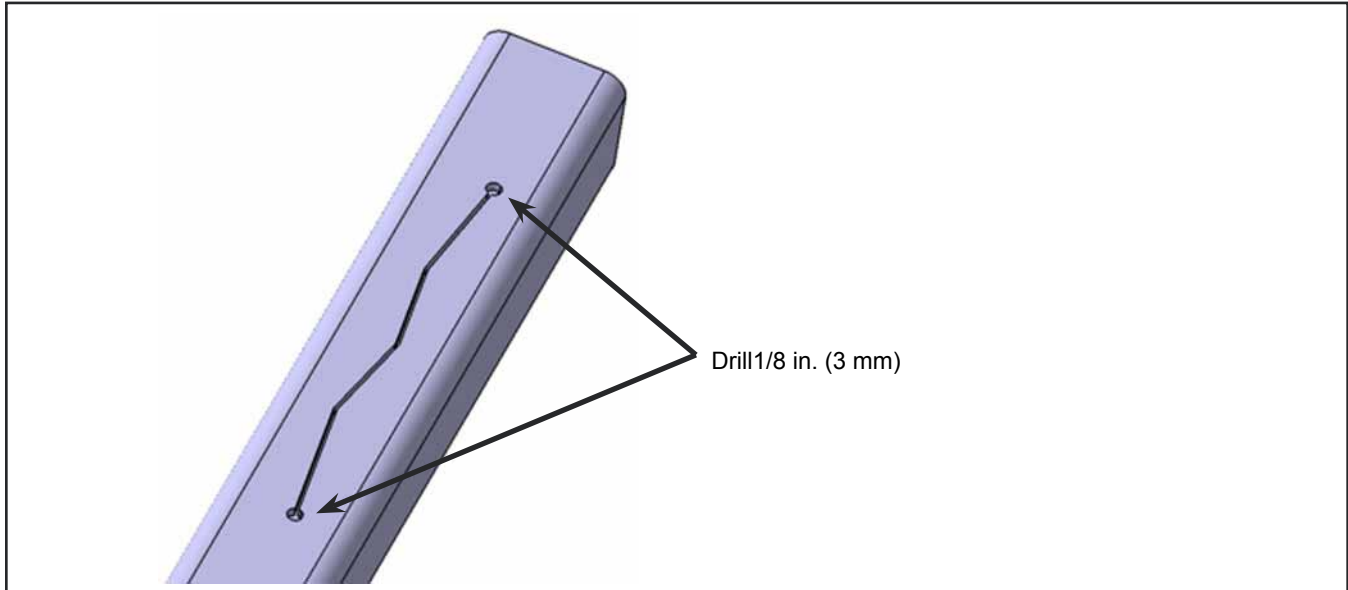

Figure 5 - Typical Crack Drilled at Both Extremities
- 1.12. Drill a stop-hole 1/8 in. (3 mm) in diameter at both ends of the crack. If the crack ends at an extremity of a structural part, do not drill this end. See Figure 5.